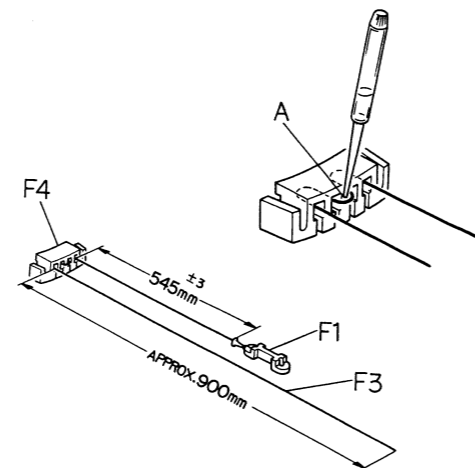

Fig. 5.2
(3) Refer to Fig. 5.2. Passing the thread through F4 (wire holder), set length of thread between F1 and F4 to be 545 mm. Drip a drop of AVDEL BOND #C-2 onto the point A for fixing the thread.